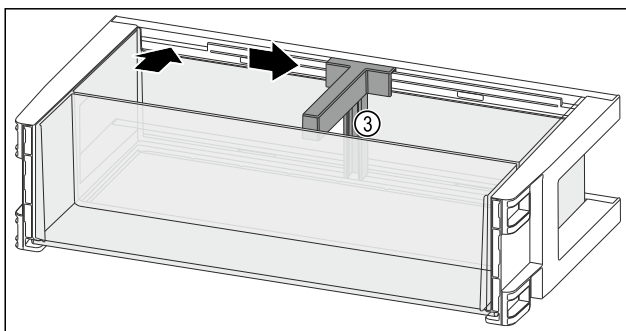

Fig. 139
- ▶ Insert the bottle holder Fig. 139 (3) in the recess.
- ▶ Push the bottle holder Fig. 139 (3) to the desired position to the side.